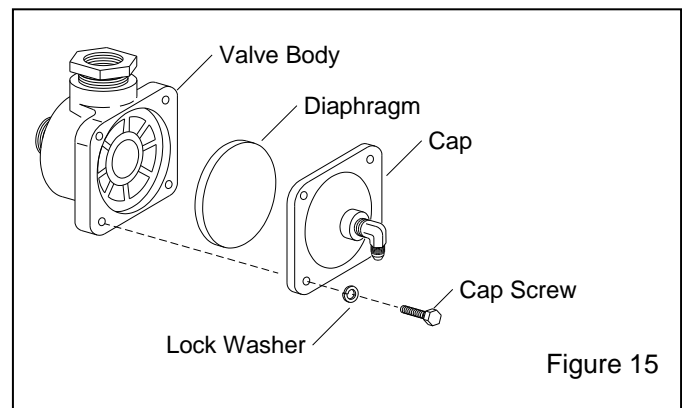

Figure 15
**5.5 Diaphragm Outlet Valve, Refer to Figure 15**